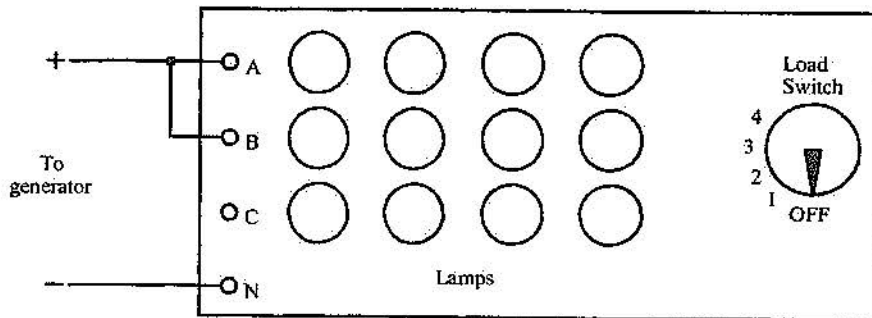

Figure 3
1. Connect the circuit as shown in figure 3.
Note: The load is a lamp panel that consists of a series of lamps that may be switched into circuit via a load switch. The load panel is to be connected as shown in figure 3.